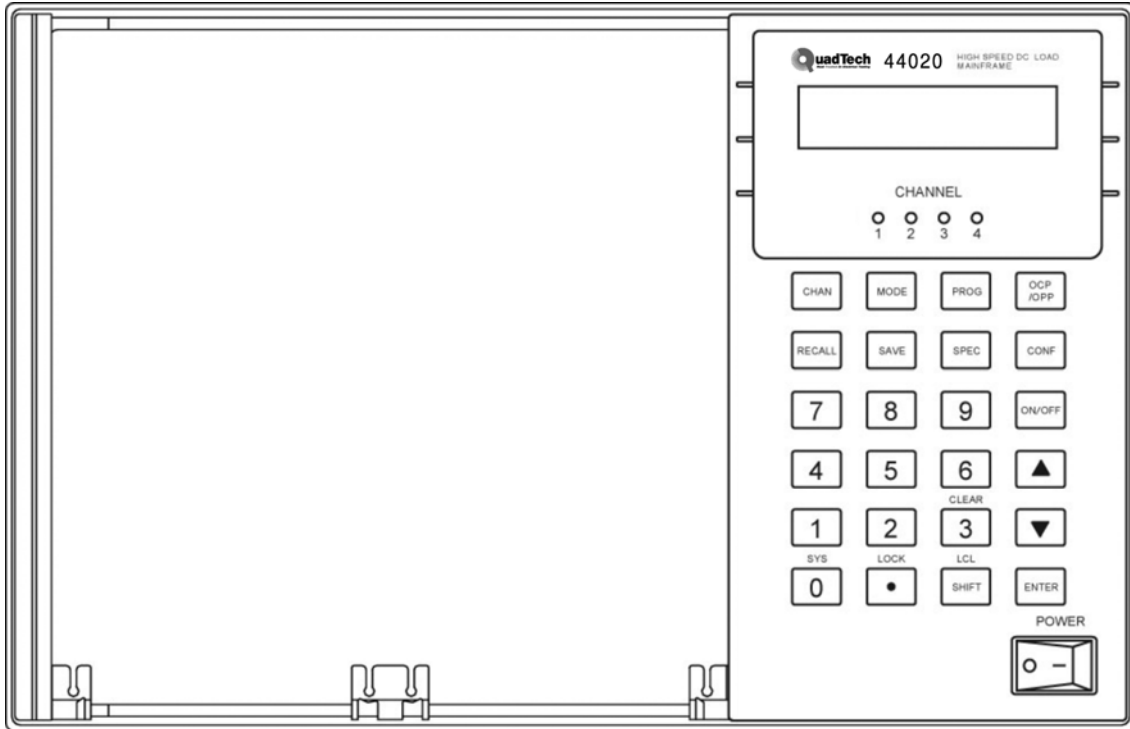

Figure 3-1 Front Panel of the Mainframe 44020
The front panel of the mainframe includes a 16 × 2 character LCD display, 8 (4) channel indicators, and a keypad. All parameters of the load are set through mainframe. The LCD display also shows which function is being performed when you use the keypad. Three of the keys perform two functions. The alternative function is labeled in blue above the key. Select by pressing the blue **SHIFT** key and the function key simultaneously. Figure 3-1 shows the front panel of the mainframe 44020.